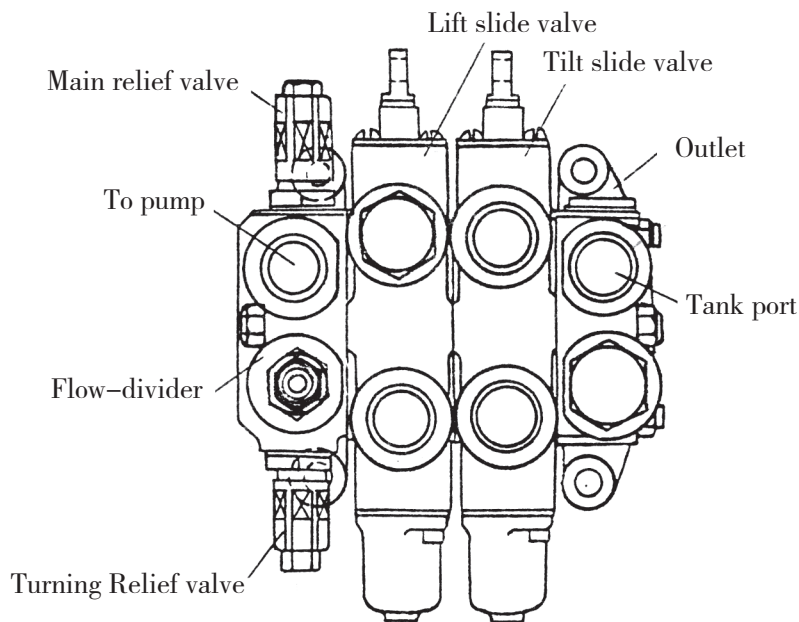

Fig. 7.1 Control valve
7.3 Control valve (See Fig. 7.1)